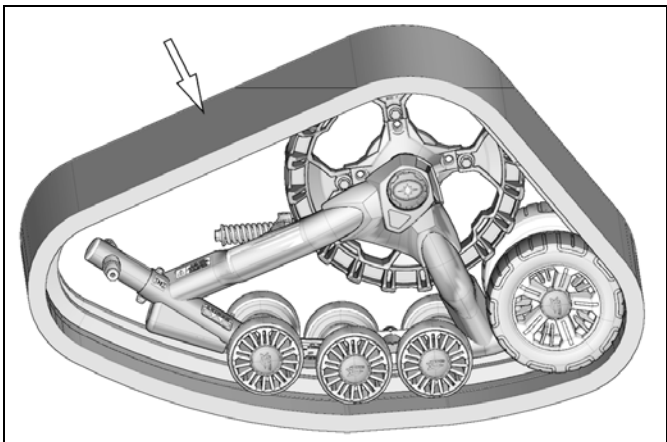

Figure 27
- Install the rubber track. See Figure 27.